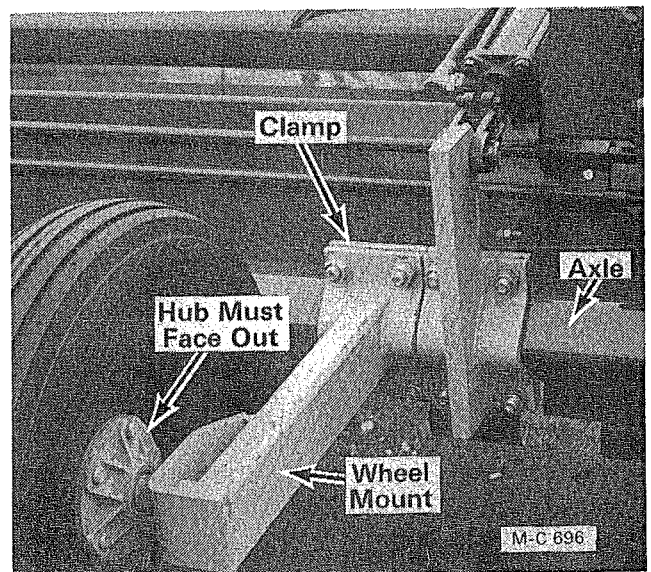

Figure 4
3. Install the wheel mounts and wheels on the axle at the desired spacing (see note). Right and left axle hubs must face out, see Figure 4. Secure each wheel mount clamp with four $\frac{3}{4}$ "-10 x $2\frac{1}{2}$ " (Grade 5) hex-head capscrews, lockwashers and nuts.